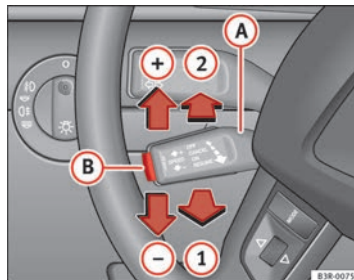

Fig. 154 Controls for the cruise control system
- Pull the lever **A** to position  $\Rightarrow$  Fig. 154 **1** to activate the system.
If no speed was stored when the system was temporarily disabled, a new speed can be set as follows: drive at the desired cruising speed and briefly press button  $\Rightarrow$  Fig. 154 **(B)** (SET).
- Move lever (A) ⇒ Fig. 154 to position (2) (click stop engaged).